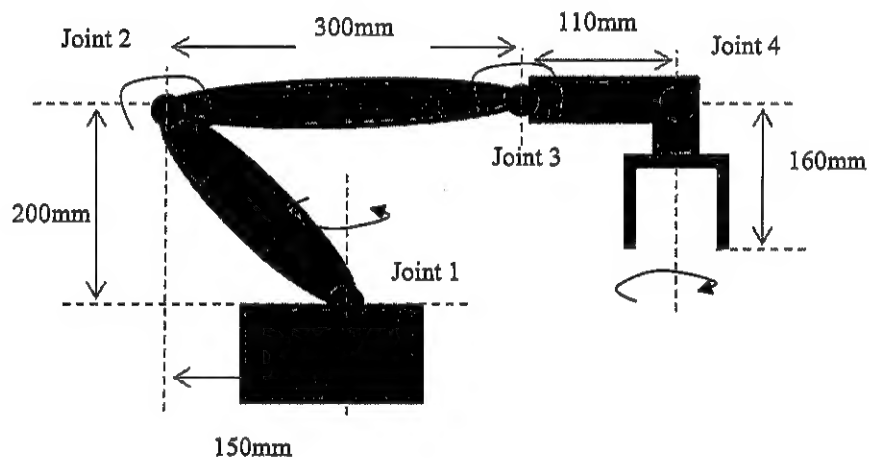

Fig. Q1
- (b) A manipulator with four degrees of freedom at its home position is shown in Fig. Q1. All the joints are revolute joints.